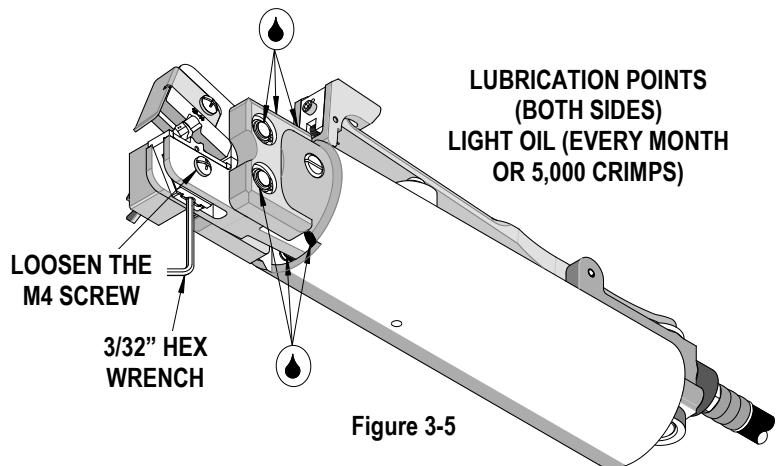

Figure 3-5
3. Make certain all pins; pivot points and bearing surfaces are protected with a thin coat of high quality machine oil. Do not oil excessively. This tool needs cleaning and lubrication for a maximum service life of trouble-free crimping. Using a light oil, such as 30 weight automotive oil on the oil points shown in Figure 3-5, every 5,000 crimps or monthly will significantly enhance the tool life and ensure a stable calibration.